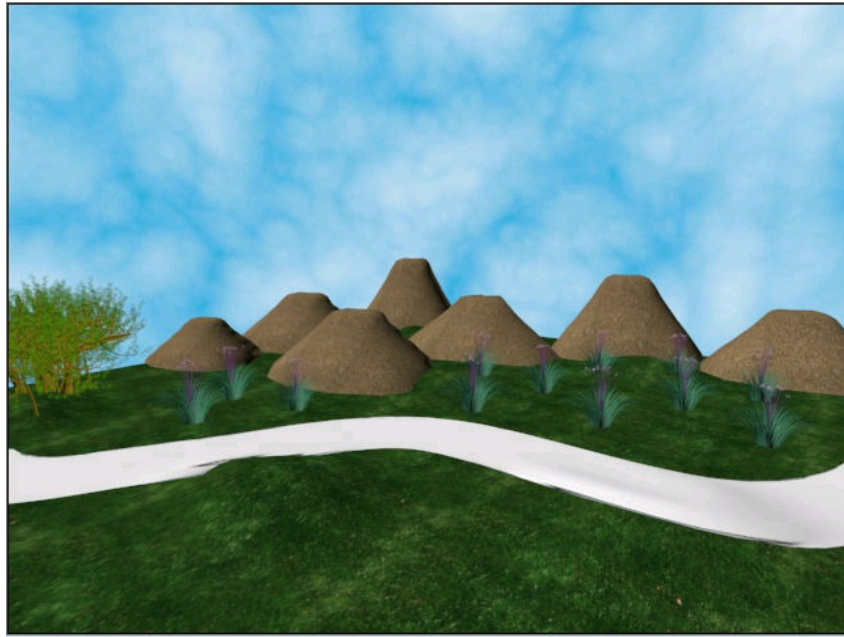

Figure 11-105 The final output of the scene
2. Choose the **Render Production** tool in the **Main Toolbar**; the **Rendered Frame** window is displayed with the final output of the scene at one frame, refer to Figure 11-105. Next, close this window.